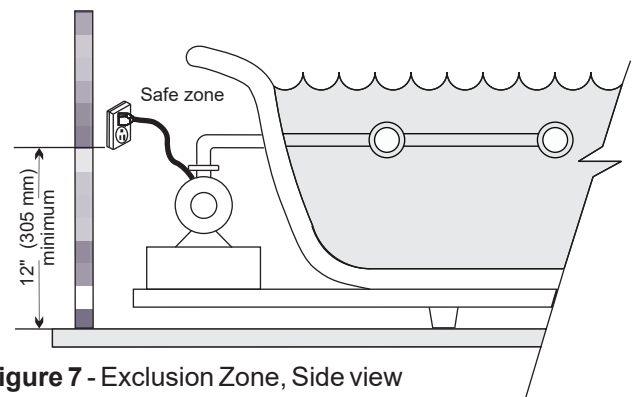

Figure 7 - Exclusion Zone, Side view
- Minimum height for NEMA plug as per the standard is 38 mm, but Mirolin Industries' recommended safe zone height is 305 mm (12"). Figure 7.